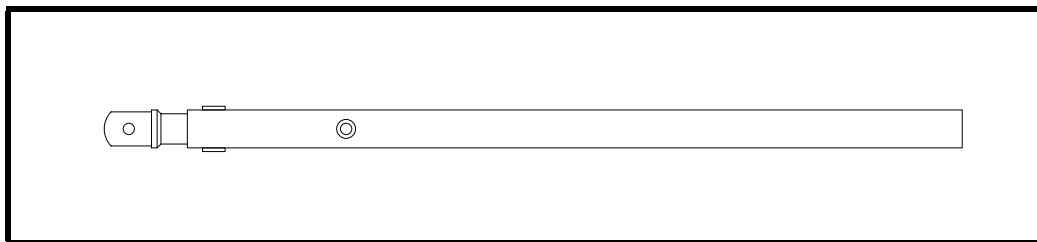

Figure 39
- ❑ Install P/N 603 screwjack ends in P/N 512-1 and 512-2 screwjack sleeves as shown in Detail E of Drawing No. 102. See Figure 39. The nut must be finger tight only.